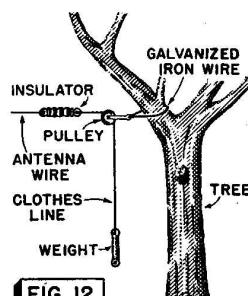

FIG. 12
► Fig. 12 shows a method of securing the antenna to a tree. A loop of galvanized iron wire is passed around some portion of the tree above a branch crotch so that it cannot slip downward. It is a good idea to thread this wire through a section of an old bicycle tire so it will not cut into the tree. Then the antenna wire can be guyed through a pulley to a heavy weight to hold it upright. It is advisable to use a weight system of this kind, because a tree will sway with the wind and will snap the antenna wire if it is drawn up taut. Another scheme is to use a long spring between the insulator and the tree guy wire instead of using the pulley and weight. The swaying tree stretches the spring.